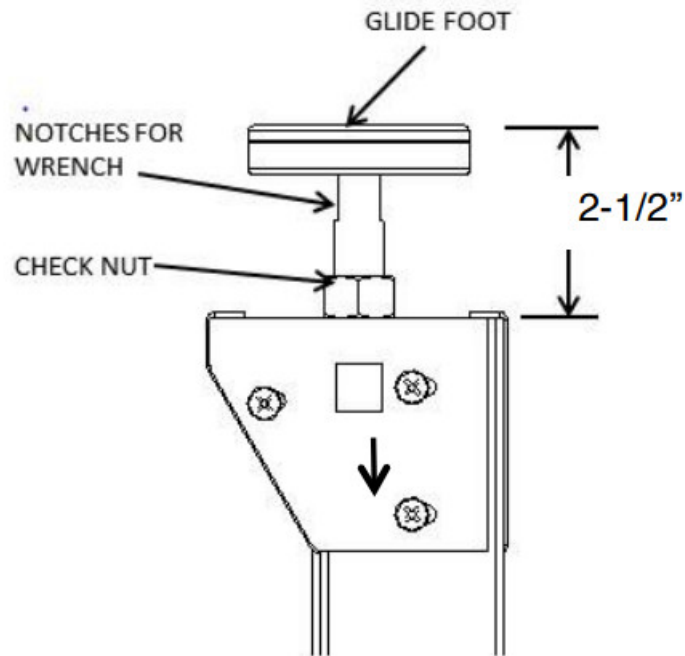

FIGURE 19b
9. Adjust each Glide Foot to meet a nominal dimension of 2-1/2". See figure 19b. While holding the Glide Foot with a 1/2" open end wrench, tighten the check nut with a 1" open end wrench.